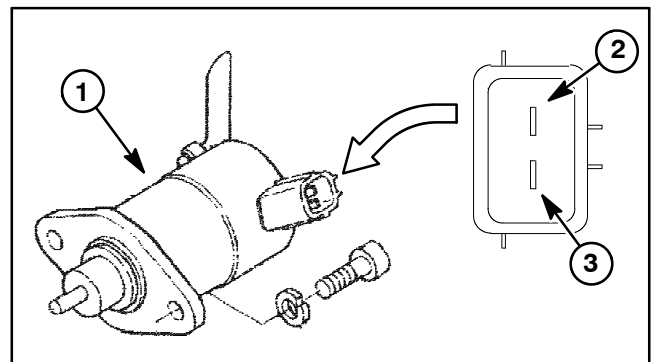

Figure 73
2. Using a digital multimeter, touch one test lead to the pull coil terminal and the other test lead to the fuel stop solenoid frame (ground) (Fig. 73). The resistance of the pull coil should be **less than 1 ohm (but not zero)**.
3. Using a digital multimeter, touch one test lead to the hold coil terminal and the other test lead to the fuel stop solenoid frame (ground) (Fig. 73). The resistance of the hold coil should be approximately **15 ohms**.